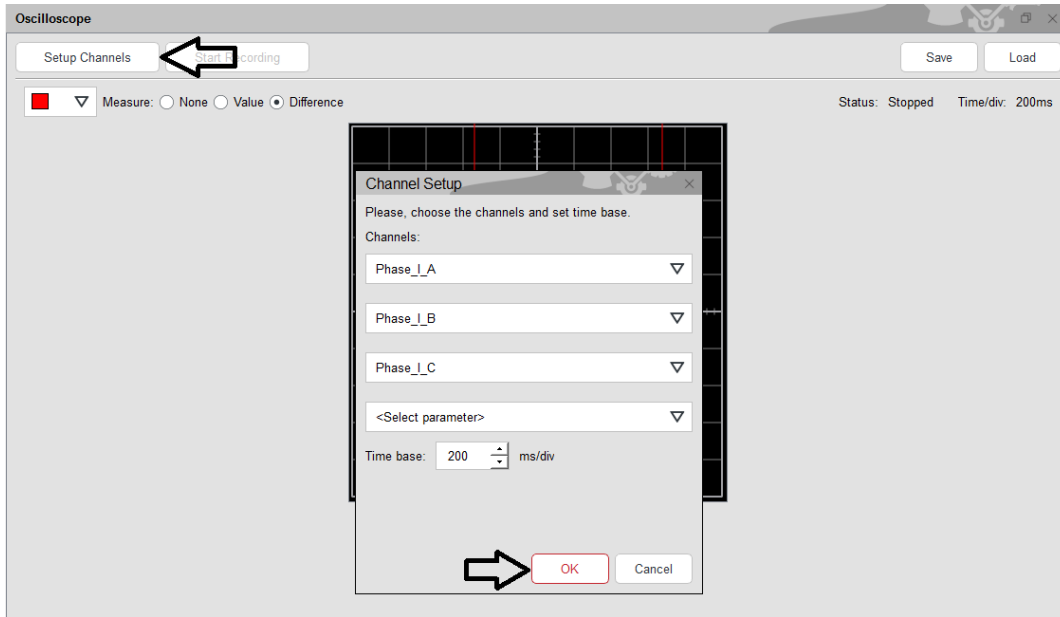

Figure 49: Setup Channels on Oscilloscope
- Select a time base and click *OK* as shown in Figure 49. This time-base applies to all channels